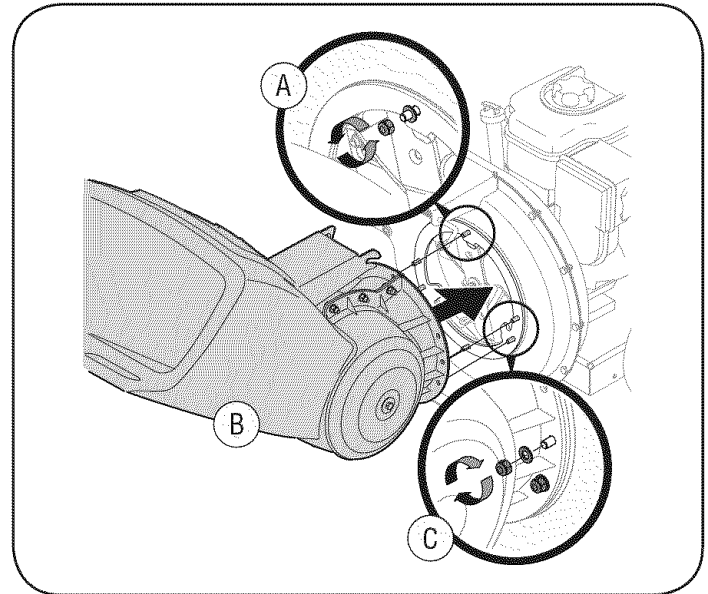

Figure 1
- a. Remove six hex nuts and washers from the weld studs on the impeller housing. Do not remove support plate. See Figure 1.